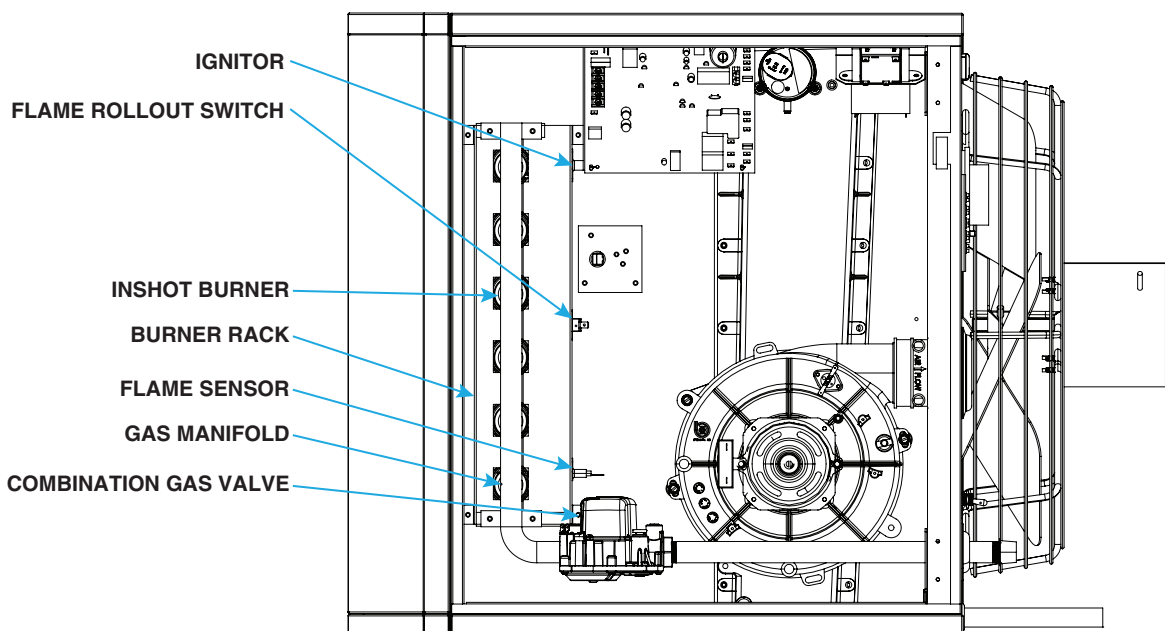

Figure 30. Burner Compartment (Unit Sizes 55–110)
Visually inspect the burner compartment (see Figure 30). If there is an accumulation of dirt, dust, and/or lint, clean the compartment and remove and clean the burners as follows:
2. Remove burner assembly (see **Figure 30**):
5. Re-install burner assembly (see **Figure 30**):